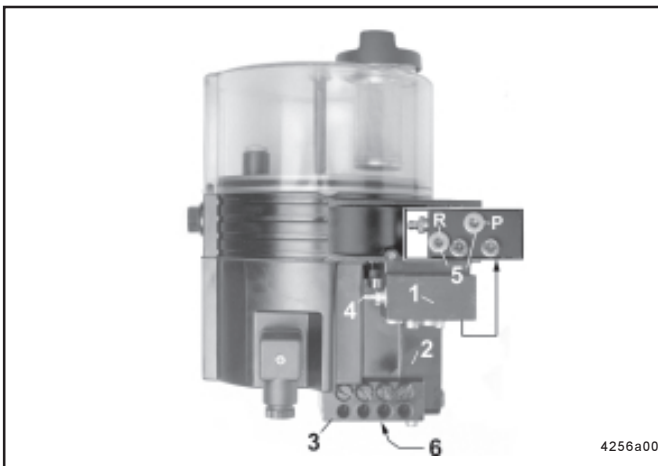

Fig. 16 - QLS 311 with bottom mounted SSV divider block
- SSV divider block mounted on the bottom (see fig. 16)